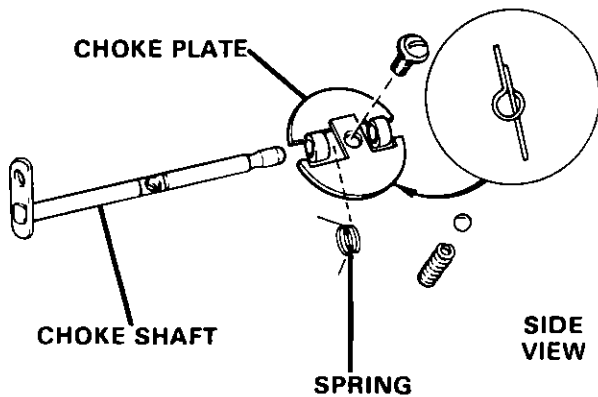

Figure 28 Assembling Choke to Carburetor
- F Place bottom choke plate half on choke shaft, end of spring under, secure with screw. Figure 28